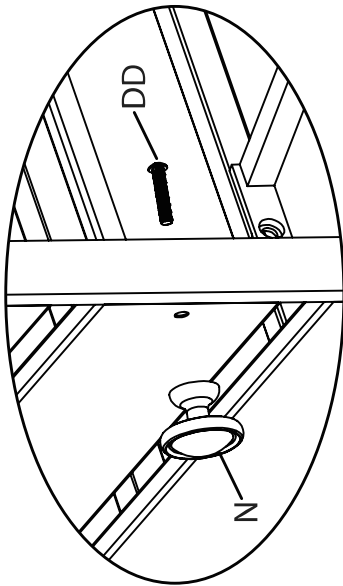

Figure 6
6. Attach the door handle (K) to the door panel (E) with the bolt (DD) using a Phillips screwdriver (NOT included), (see Figure 6).